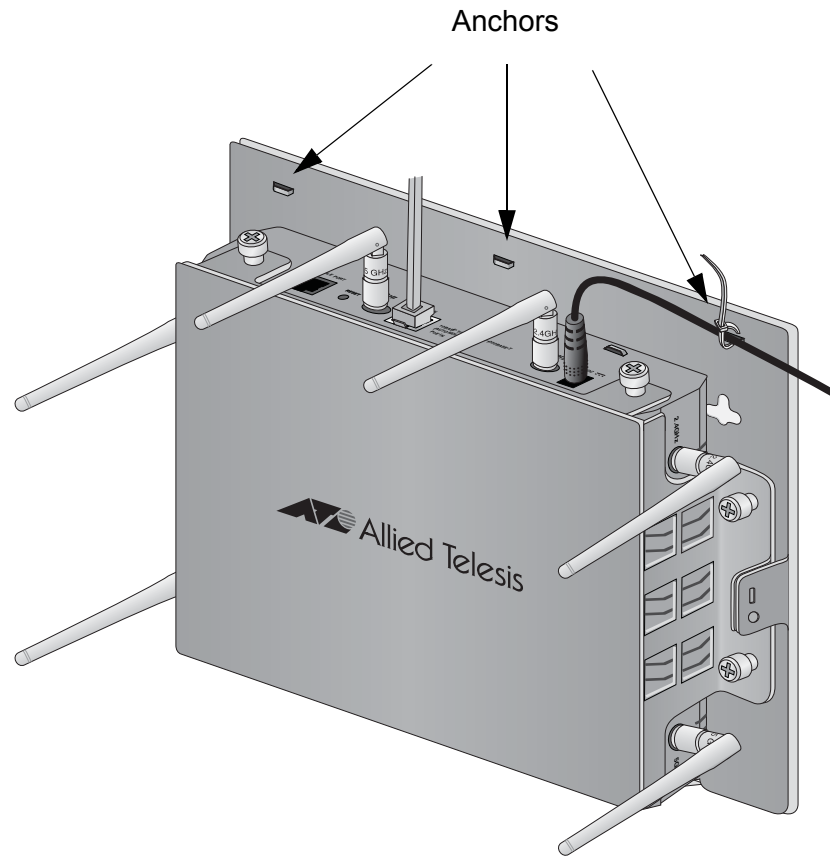

Figure 27. Securing the DC Power Cord to the AT-BRKT-J26 Bracket with the Tie Wrap
12. Secure the DC cable to one of the anchors on the bottom panel with the tie wrap that comes with the access point. Refer to Figure 27 on page 48.